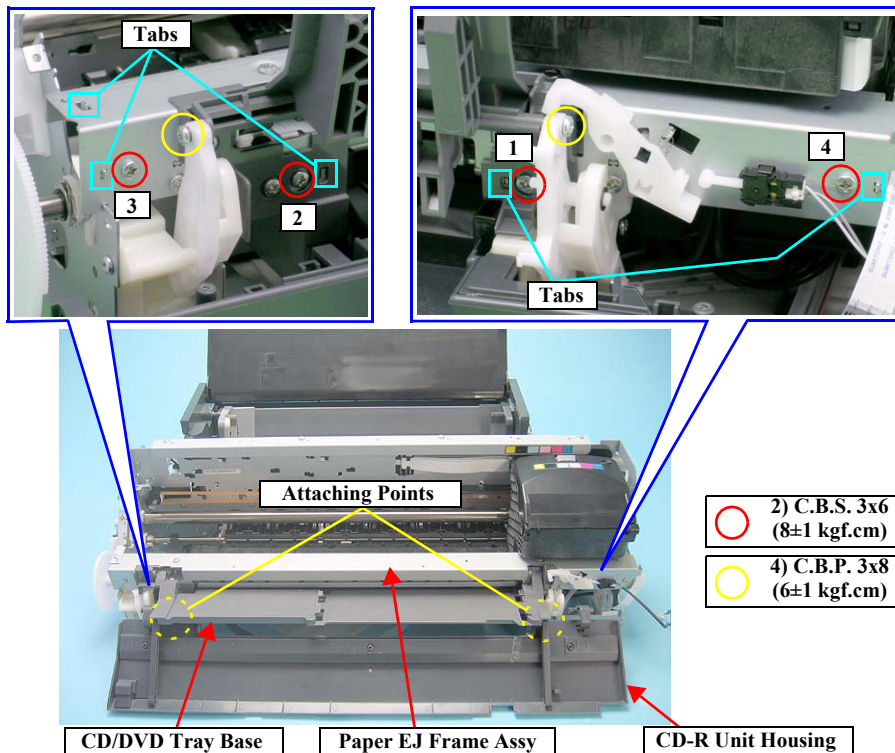

Figure 4-84. Screws that Secure the Paper EJ Frame Assy
- Match the tabs with the five Positioning Holes. See Figure 4-84.